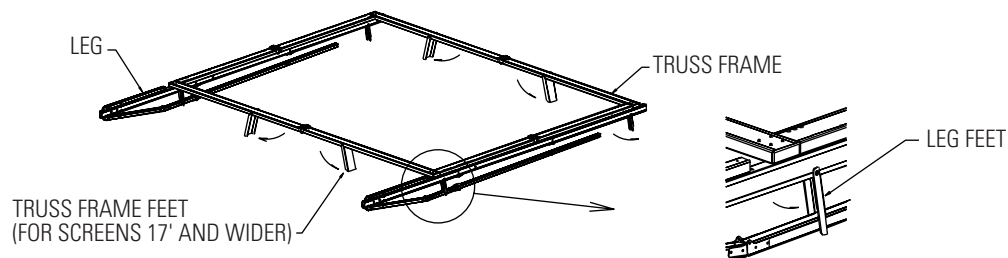

FIGURE 4
3. Attach Heavy Duty Fast-Fold® Deluxe legs to side frame members at desired height, using Speedy Cranks. Note color tape on legs and frame. When matched, the screen height will be 44" off the floor. If legs are too high, top section or sections may be folded over. Unfold the frame feet (for screens 17' and wider) and leg feet. See figure 4. Do not tighten Speedy Cranks until all are started, then tighten.